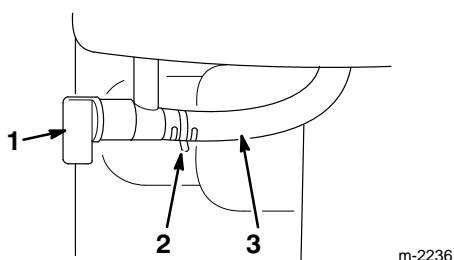

Figure 17
- **Fuel Shut-off Valve** (Fig. 17)—Close the valve by rotating it to the right to stop fuel flow from fuel tank. Open the valve by rotating it to the left. Close the valve when you do not use the snowthrower.
2. Open the fuel shut-off valve below the fuel tank (Fig. 17) by rotating it to the left.